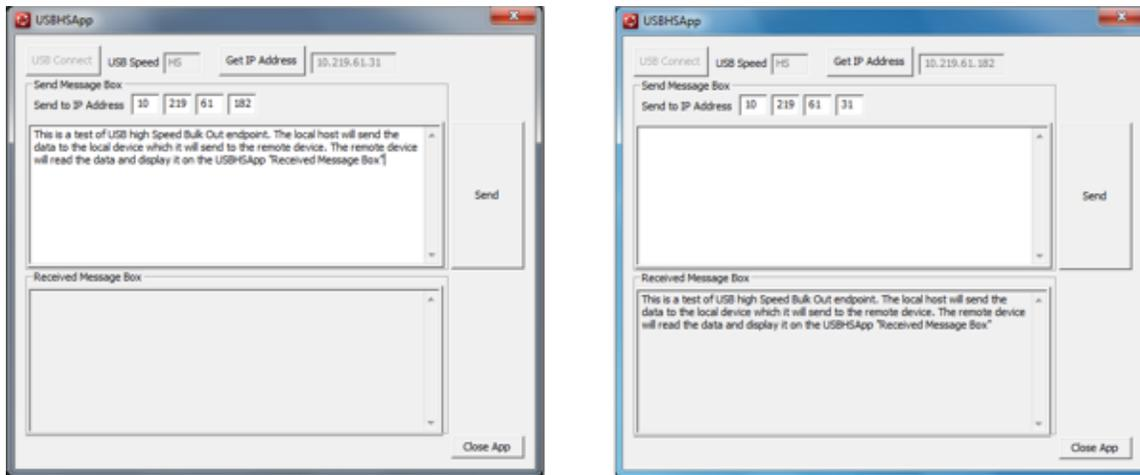

Figure 24. Send Message From Local to Remote Host
- To send messages from the local host to the remote host, enter the IP address of the remote host in the *Send to IP Address* edit box of the local host. Now type the message in the *Send Message Box* and click the *Send* button. The message will be shown in the *Received Message Box* of the USBHSAApp running on the remote device (see Figure 24).